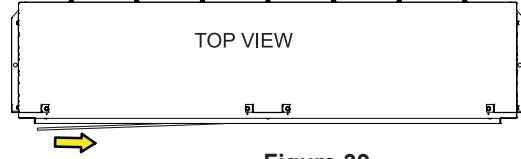

Figure 39
- Replace the glass front into the fireplace by placing the right side into the slots in the firebox. Carefully angle in the left side of the glass and then slide the glass to the left. Settle the glass into the slots by gently lowering it. **See Figures 39 - 42.**